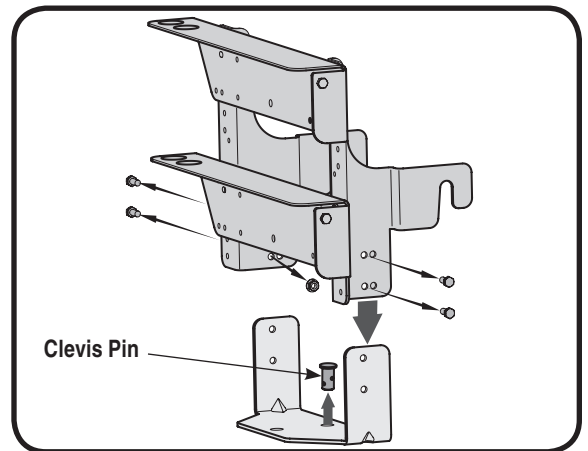

Figure 14
1. Remove the two nuts and screws on each side of the mounting bracket holding the hitch plate. See Figure 14.
3. Remove the hairpin clip and clevis pin from the hitch plate as seen in Figure 14. Save the hardware.